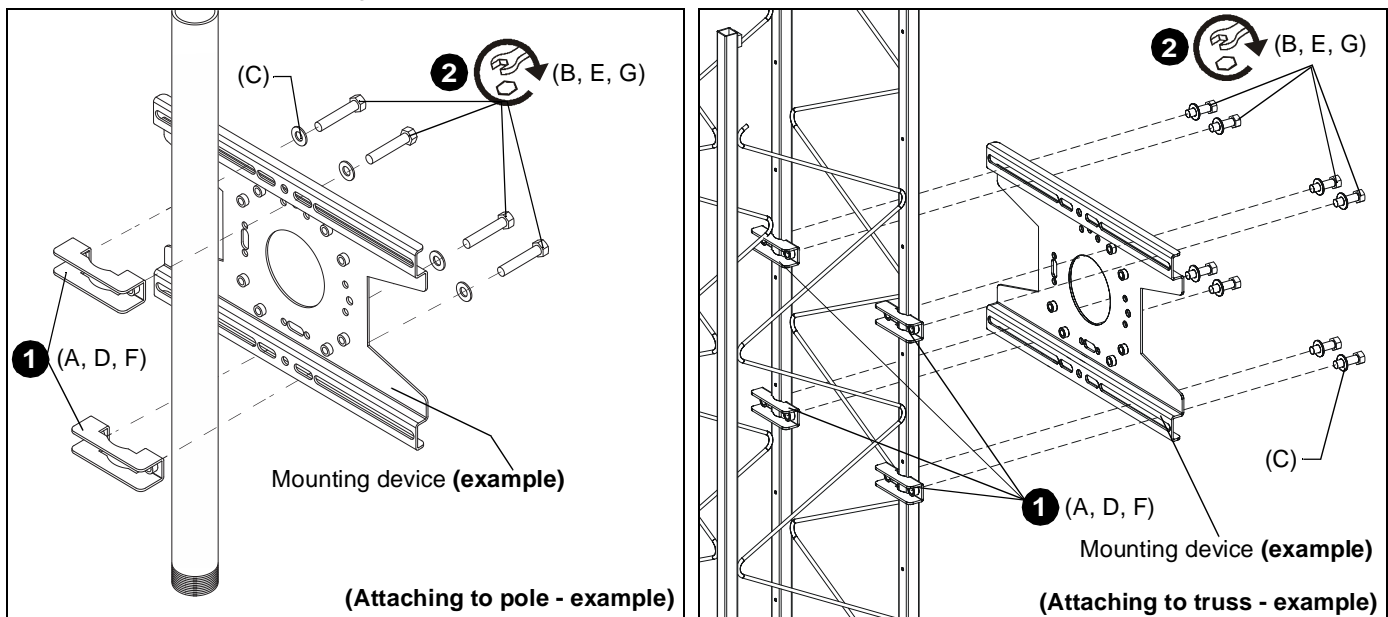

Figure 1
1. Place clamp(s) (A, D, or F) against truss or pole. (See Figure 1)
2. Using two (or four) 3/8-16 hex head bolts [(B) with clamp (A); (E) with clamp (D); (G) with clamp (F)] and 3/8" washers (C), secure clamp(s) to mounting system, following instructions included with the mounting system.